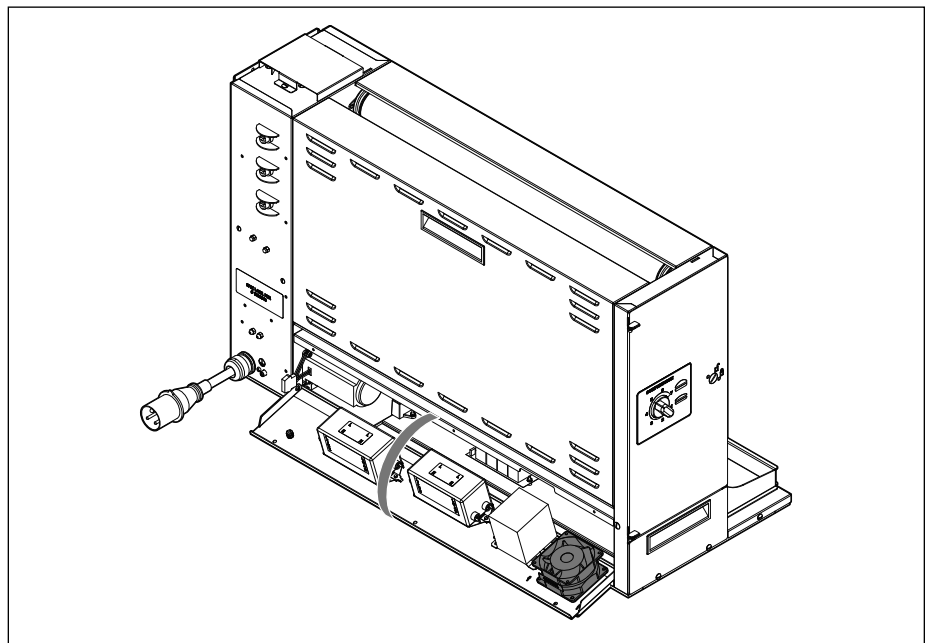

Figure 17. Accessing Rear Cooling Fan
1. With the unit off, remove the 3 rear screws securing the rear access panel and carefully lower the panel (Figure 17).